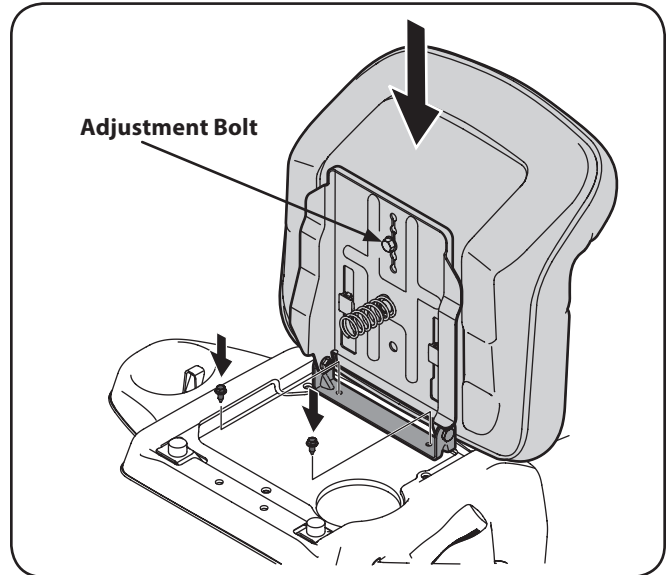

Figure 3-5
- Position the seat assembly in place over the holes, as shown in Figure 3-5.
- To adjust the position of the seat, remove the adjustment bolt on the bottom of the seat. Slide the seat forward or backward as desired. Reinstall the adjustment bolt. Refer to Figure 3-5.